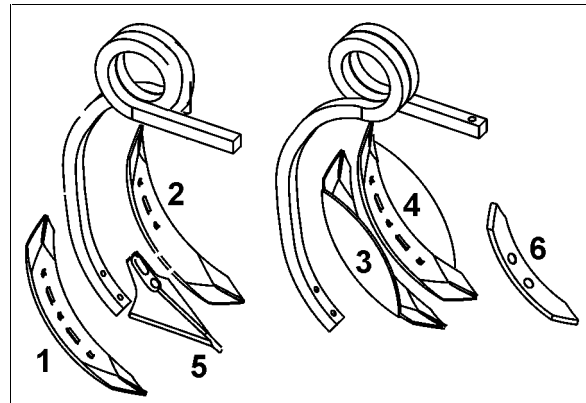

Fig. 14
- **Inversion share (75 mm) (Fig. 14/1,2)**
- **Side shares for inversion share (Fig. 14/3,4)**
- **Stubble share (Fig. 14/5)**
- **Narrow share (50mm) (Fig. 14/6)**